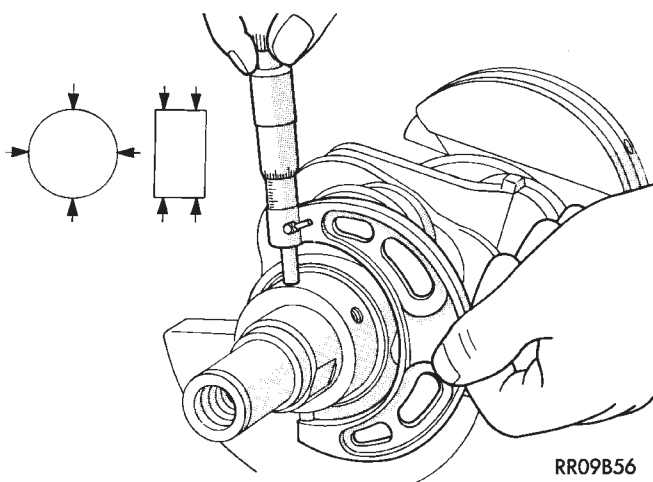

Fig. 14 Measure Crankshaft Journal O.D.
(1) Measure the journal outside diameter as shown in (Fig. 14). Refer to Specifications .